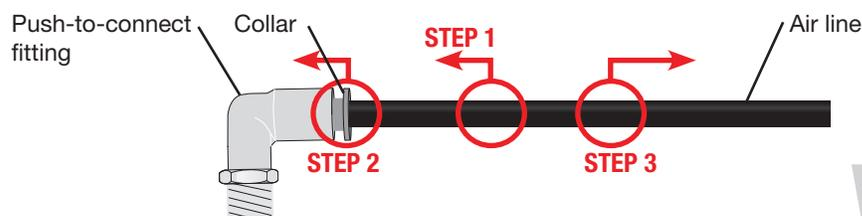

fig. 2
2. To disconnect PTC fittings, push in on the air line (step 1), push the collar (step 2) and, with the collar depressed, pull the air line out of the fitting (step 3) (Fig. 2).